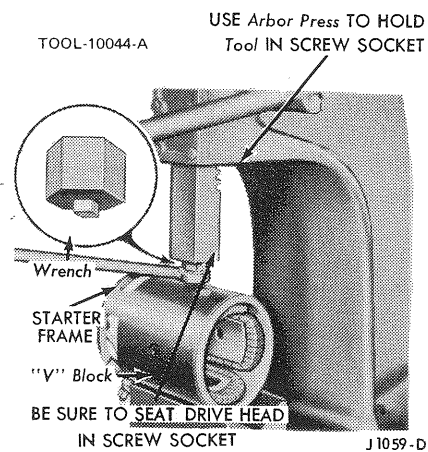

FIG. 9 Pole Shoe Screw Removal
8. Remove the three coil-retaining screws, using Tool 10044-A and an arbor press (Figure 9). The arbor press prevents the wrench from slipping out of the screw. Unsolder the field coil leads from the terminal screw,